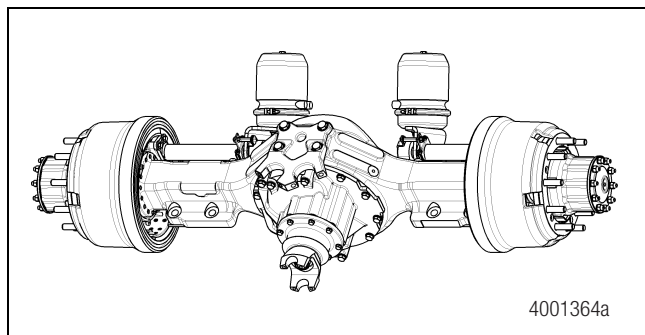

Figure 2.3
- The housing has bolt-on torque rod brackets. Figure 2.3.